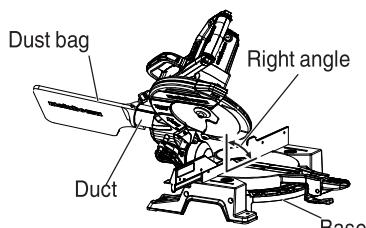

Fig. 25
(2) During bevel and compound cutting, attach the dust bag at a right angle to the base surface as shown in Fig. 25.